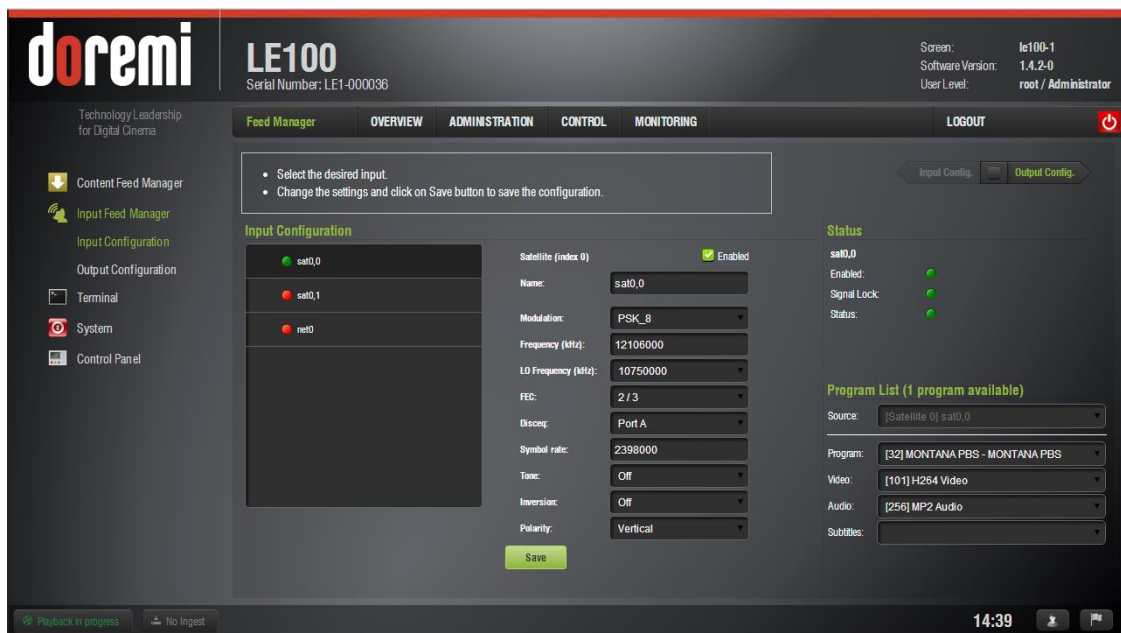

Figure 11: Input Configuration – Satellite
- Select the Modulation, FEC, Disceq, Tone, Inversion and Polarity to use. Type in the proper Frequency and Symbol Rate values. Then click on the Save button (see Figure 11).